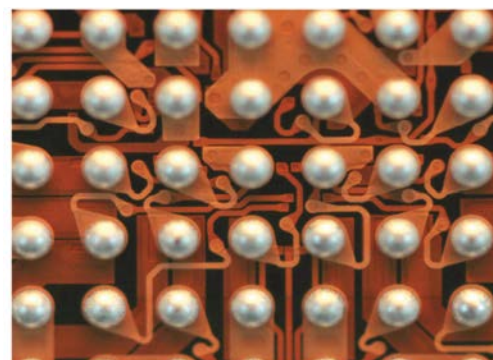

Figure 1 - Example of a multi-layer RDL of WLFO package.
- multi-layer RDL routing (Fig. 1);